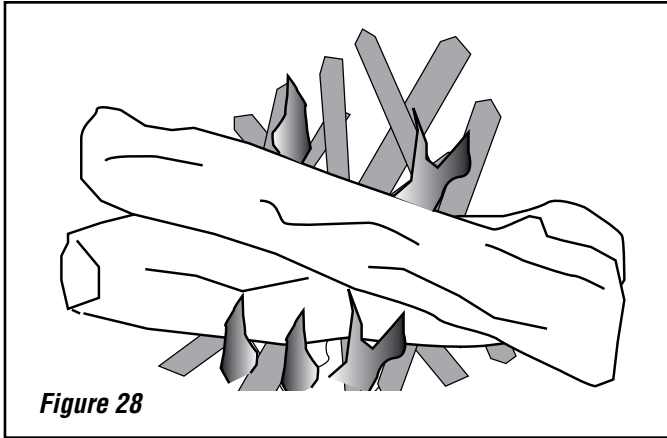

Figure 28
7. For best results, use smaller pieces of wood to get the appliance temperature very high before loading larger wood for sustained burns. If necessary, crack the door to allow ignition of the fuel charge. Do not leave the unit unattended while the front door is slightly open. Now you can add larger pieces of wood and after several minutes of high burn, set the left control for the desired heat output. Check the exhaust in about 15 to 20 minutes (see **Figure 28**). Large amounts of smoke indicate an improper burn setting (either too high or too low). Adjust and recheck in 5 to 10 minutes.